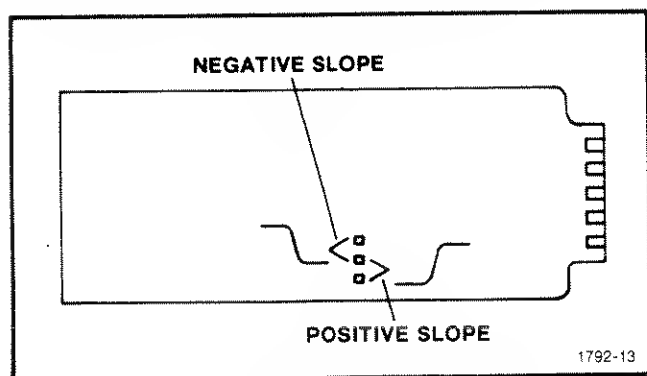

Fig. 4-9. X-Y Output Module strap.
b. Place the terminal connection link of the OUTPUT MODULE board on the negative slope terminals (see Fig. 4-9).